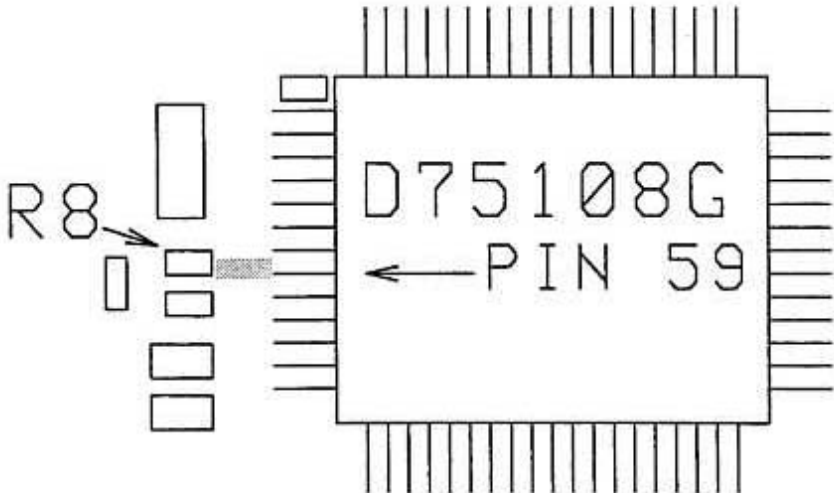

FIGURE 5
10. Remove the protective coating from the foil between pin 58 of the microprocessor and chip resistor R8. Presolder the exposed foil. Figure 5.